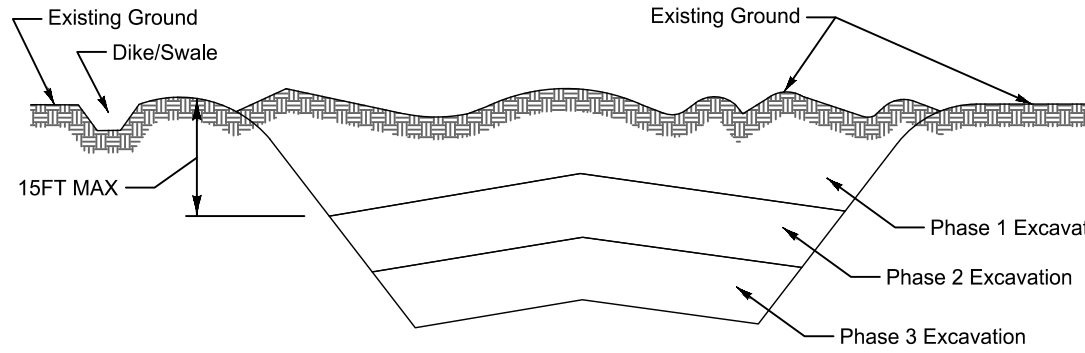

Figure B.1: Incremental Stabilization - Cut
- Construction sequence example (Refer to Figure B.1):